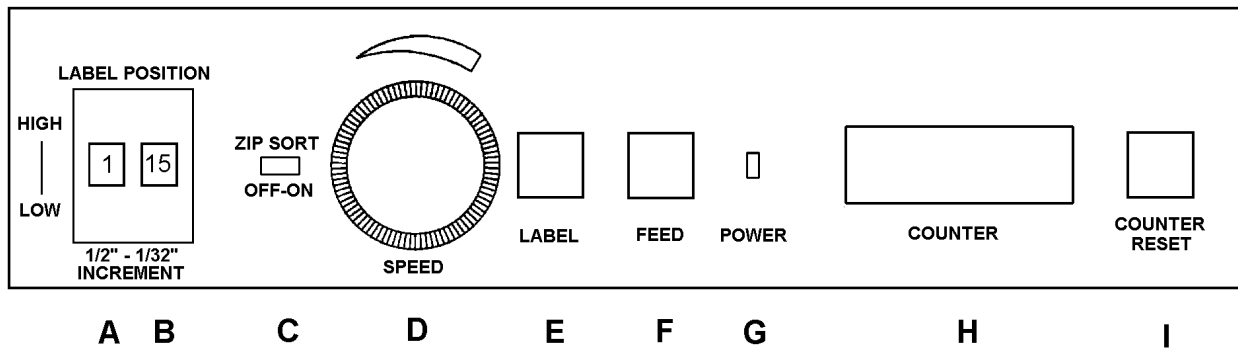

Figure 10
3. Turn Speed Control Knob **[Figure 10-D]** to minimum and press **FEED Switch [Figure 10-F]**
5. Set **LABEL POSITION Switch** to desired setting. Each position of left switch **[Figure 10-A]** moves label 1/2". Each position of right switch **[Figure 10-B]** moves label 1/32".
7. Pressing **LABEL Switch [Figure 10-E]** activates label-affixing circuitry in Labeler. Yellow indicator should be ON. Pressing **FEED Switch [Fig. 10-F]** activates feeding mechanism and labeling process.
8. Adjust speed to desired setting by turning Speed Control Knob **[Figure 10-D]**. Add envelopes to Labeler as needed. To stop Labeler, press **FEED Switch**.
12. Counter (**Fig. 10-H**) advances one count with every label placed on an envelope. It will only count when **LABEL ON Switch** is activated. Maximum count is 99,999. To reset Counter to 0, press **COUNTER RESET switch (Fig. 10-I)**.
With **ZIP-SORT Switch ON [Figure 10-C]**, ATS-9600 stops every time a missing label is detected. To activate this feature, manually remove leader label from each zip code or carrier route prior to loading labels onto Labeler and slide **ZIP-SORT Switch** to **ON** position. Operate Labeler in usual manner.